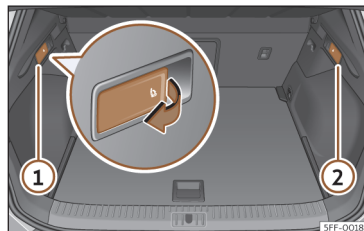

Fig. 109 In the luggage compartment: levers to unlock the rear backrest.
- Pull the remote release lever of the left part»» Fig. 109 ① or right part ② of the backrest in the direction of the arrow. The released part of the rear seat backrest is folded automatically down and forwards.